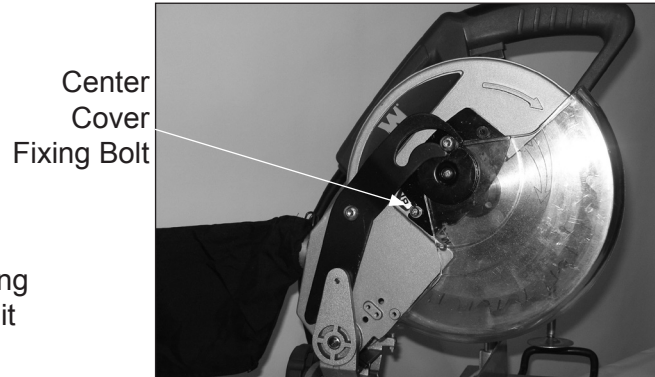

Fig. 6
3. Use a screw driver remove the Center Cover Fixing Bolt holding the Center Cover in place by turning it counterclockwise (Fig. 6).